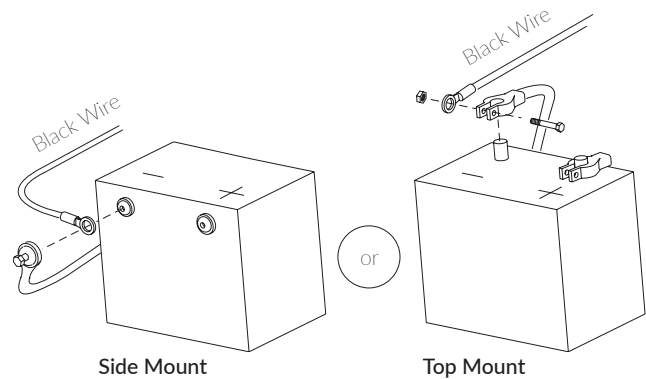

Figure 4-2
2. Start routing the wiring harness at the vehicle's battery. Join the black wire to the negative terminal on the battery. **DO NOT** attach the red wire until the very end of the installation process. **See Figure 4-2.**